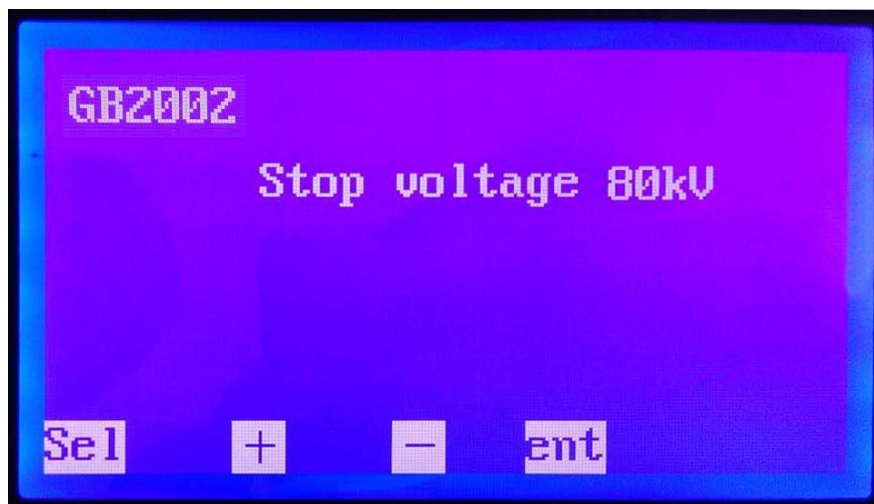

Figure 4. GB2002 child pages
4. In figure 2 page, press the select key to move the cursor) GB2002, press the ok button to enter national standard 2002 set child pages (figure 4).
In figure 4 pages, press the + or - button setting up voltage, its default value is 80 kV, optional scope of 10 kV ~ 80 kV (gear increment 10 kV).Choose good after press the confirmation key to return to boot page, press the start key for testing.
Note: Figure 4 page selection key is reserved for multi-cup selections!